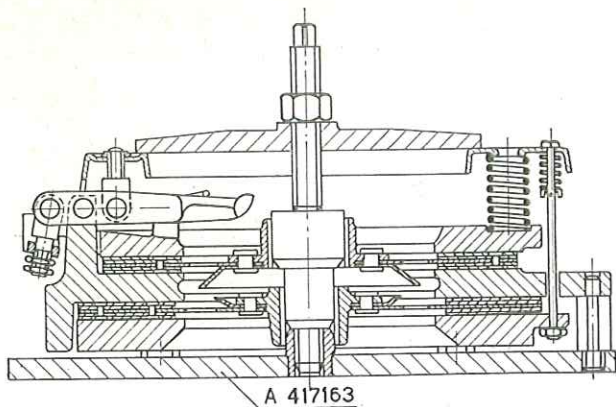

Fig. 37. - Disassembly and reassembly of the clutch on fixture A 417163.
1. Engaged clutch clearance of 0.051" to 0.067" (1.3-1.7 mm) to be checked when adjusting the pedal free travel - 2. Hollow shaft housing the P.T.-O. drive shaft - 3. Transmission shaft from clutch to gearbox - 4. P.T.-O. or belt-pulley drive shaft - 5. P.T.-O. drive shaft driving gear - 6. Clutch throw-out collar control yoke - F. Distance between clutch disc and release lever ends: 2.638" to 2.665" (67 to 67.7 mm) - H. Distance between clutch fixed plate and lever supporting plate: 3.366" to 3.405" (85.5 to 86.5 mm) (to be considered for clutch reassembly). By using fixture A 417163 as shown in fig. 37, said dimension is automatically assured - S. Clutch springs - L. Clutch release levers - A.B.D.P. See fig. 35.